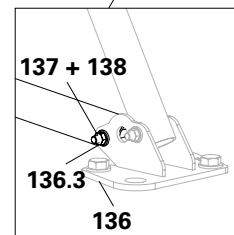

Fig. A15.06b
1. Fit an inner tube (**135.2**) onto the front hole (**136.3**) of the base plate (**136**) by means of bolts (**137**) and nuts (**138**). (Fig. A15.06b).